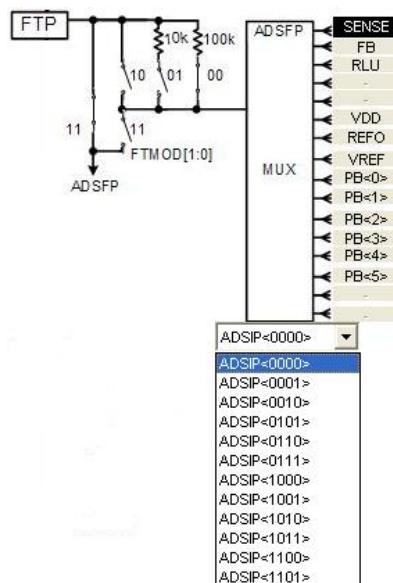

Figure 42
- (1) Click the network name with mouse left key, then AD1FP can go to the specified network
- (2) Click mouse left key and Figure 42 will be displayed, then on-off network can be selected.